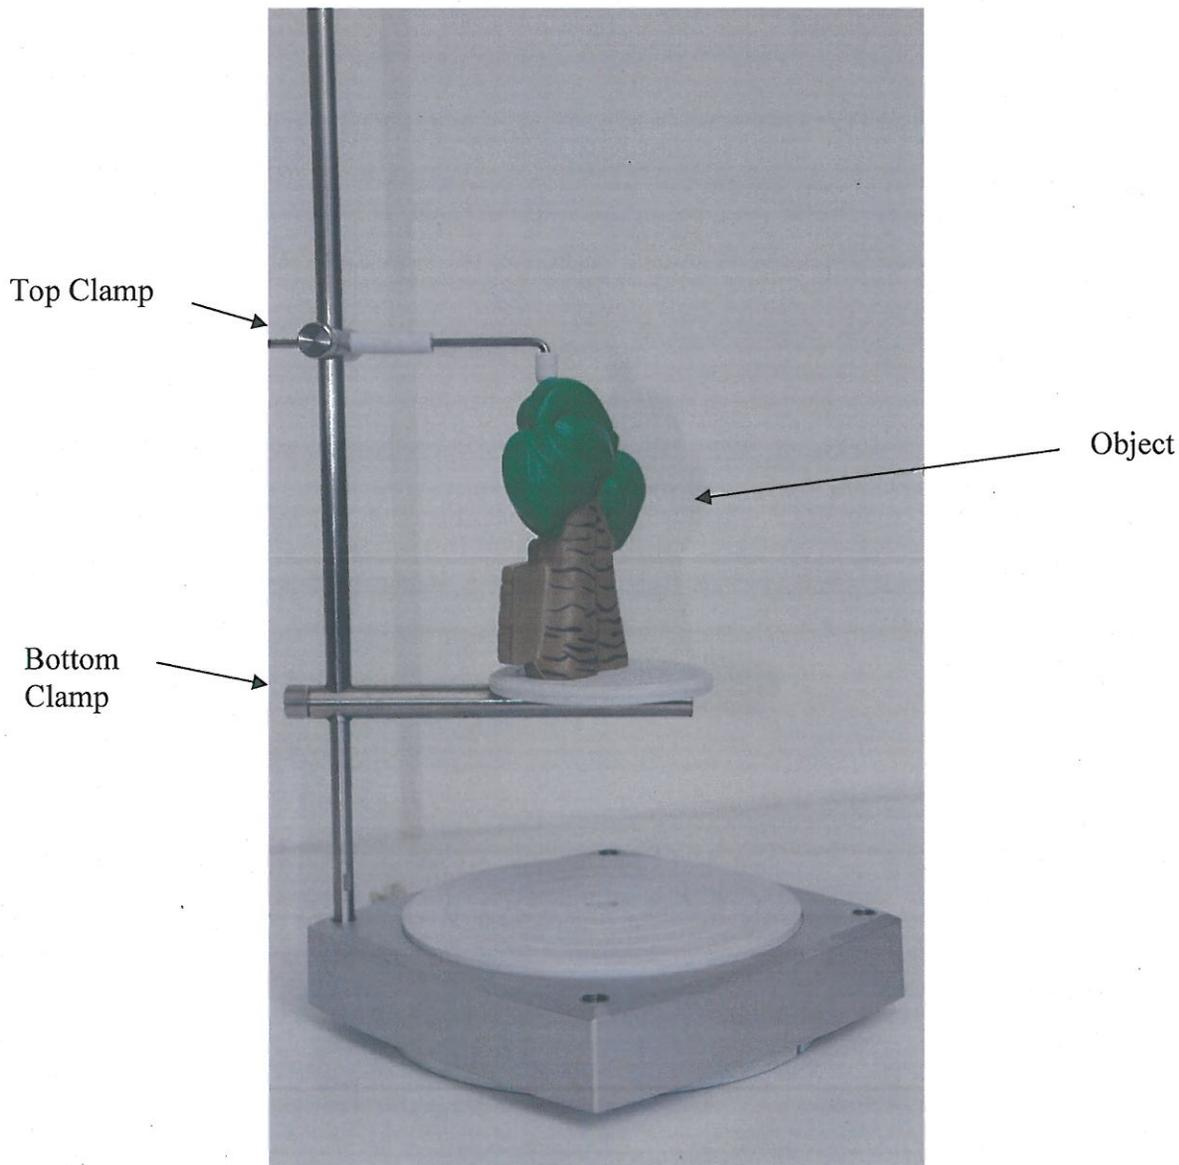

Figure 2: 3D Scanner Stand
2. **PUT** your model on the Rotating Stand platform (Figure 2).